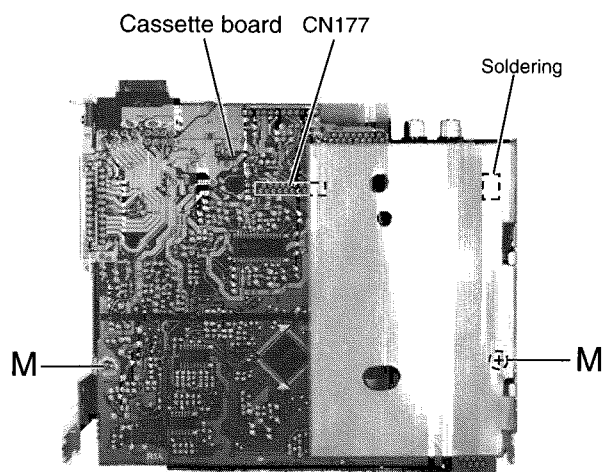

Fig 14
■ Remove the main board (See Fig 14)